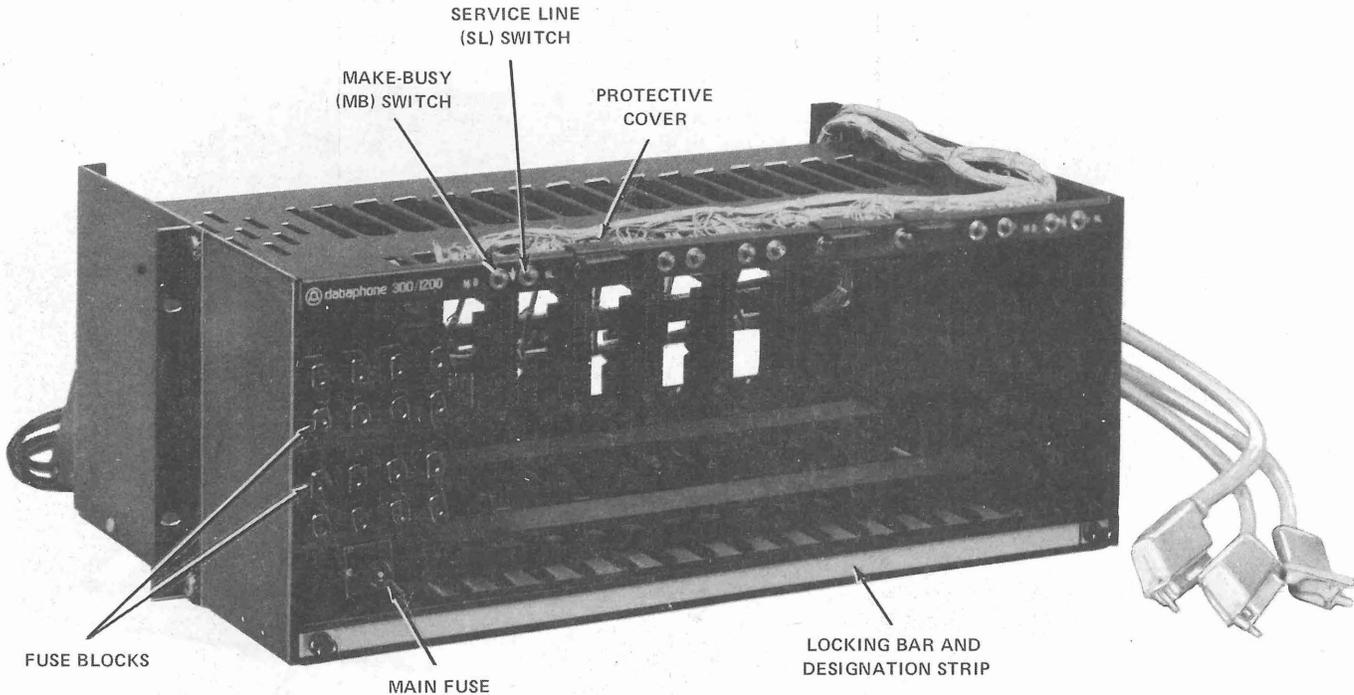

Fig. 3—40A3 Data Mounting
**1.05 40A3 Data Mounting:** The 40A3 data mounting (Fig. 3) also can be identified by the designation DATAPHONE 300/1200 located on the front. Physically, the 40A3 data mounting differs from the 40A2 in that the 40A3 has twice as many switches (16) on the front and has no backplane. The backplane on the 40A2 holds option switches and associated relays. Electrically, the 40A3 and 40A2 data mountings are similar. The differences are that the 40A3 provides a different service line exclusion feature and provides additional interface connections for DS 212A-L1A.